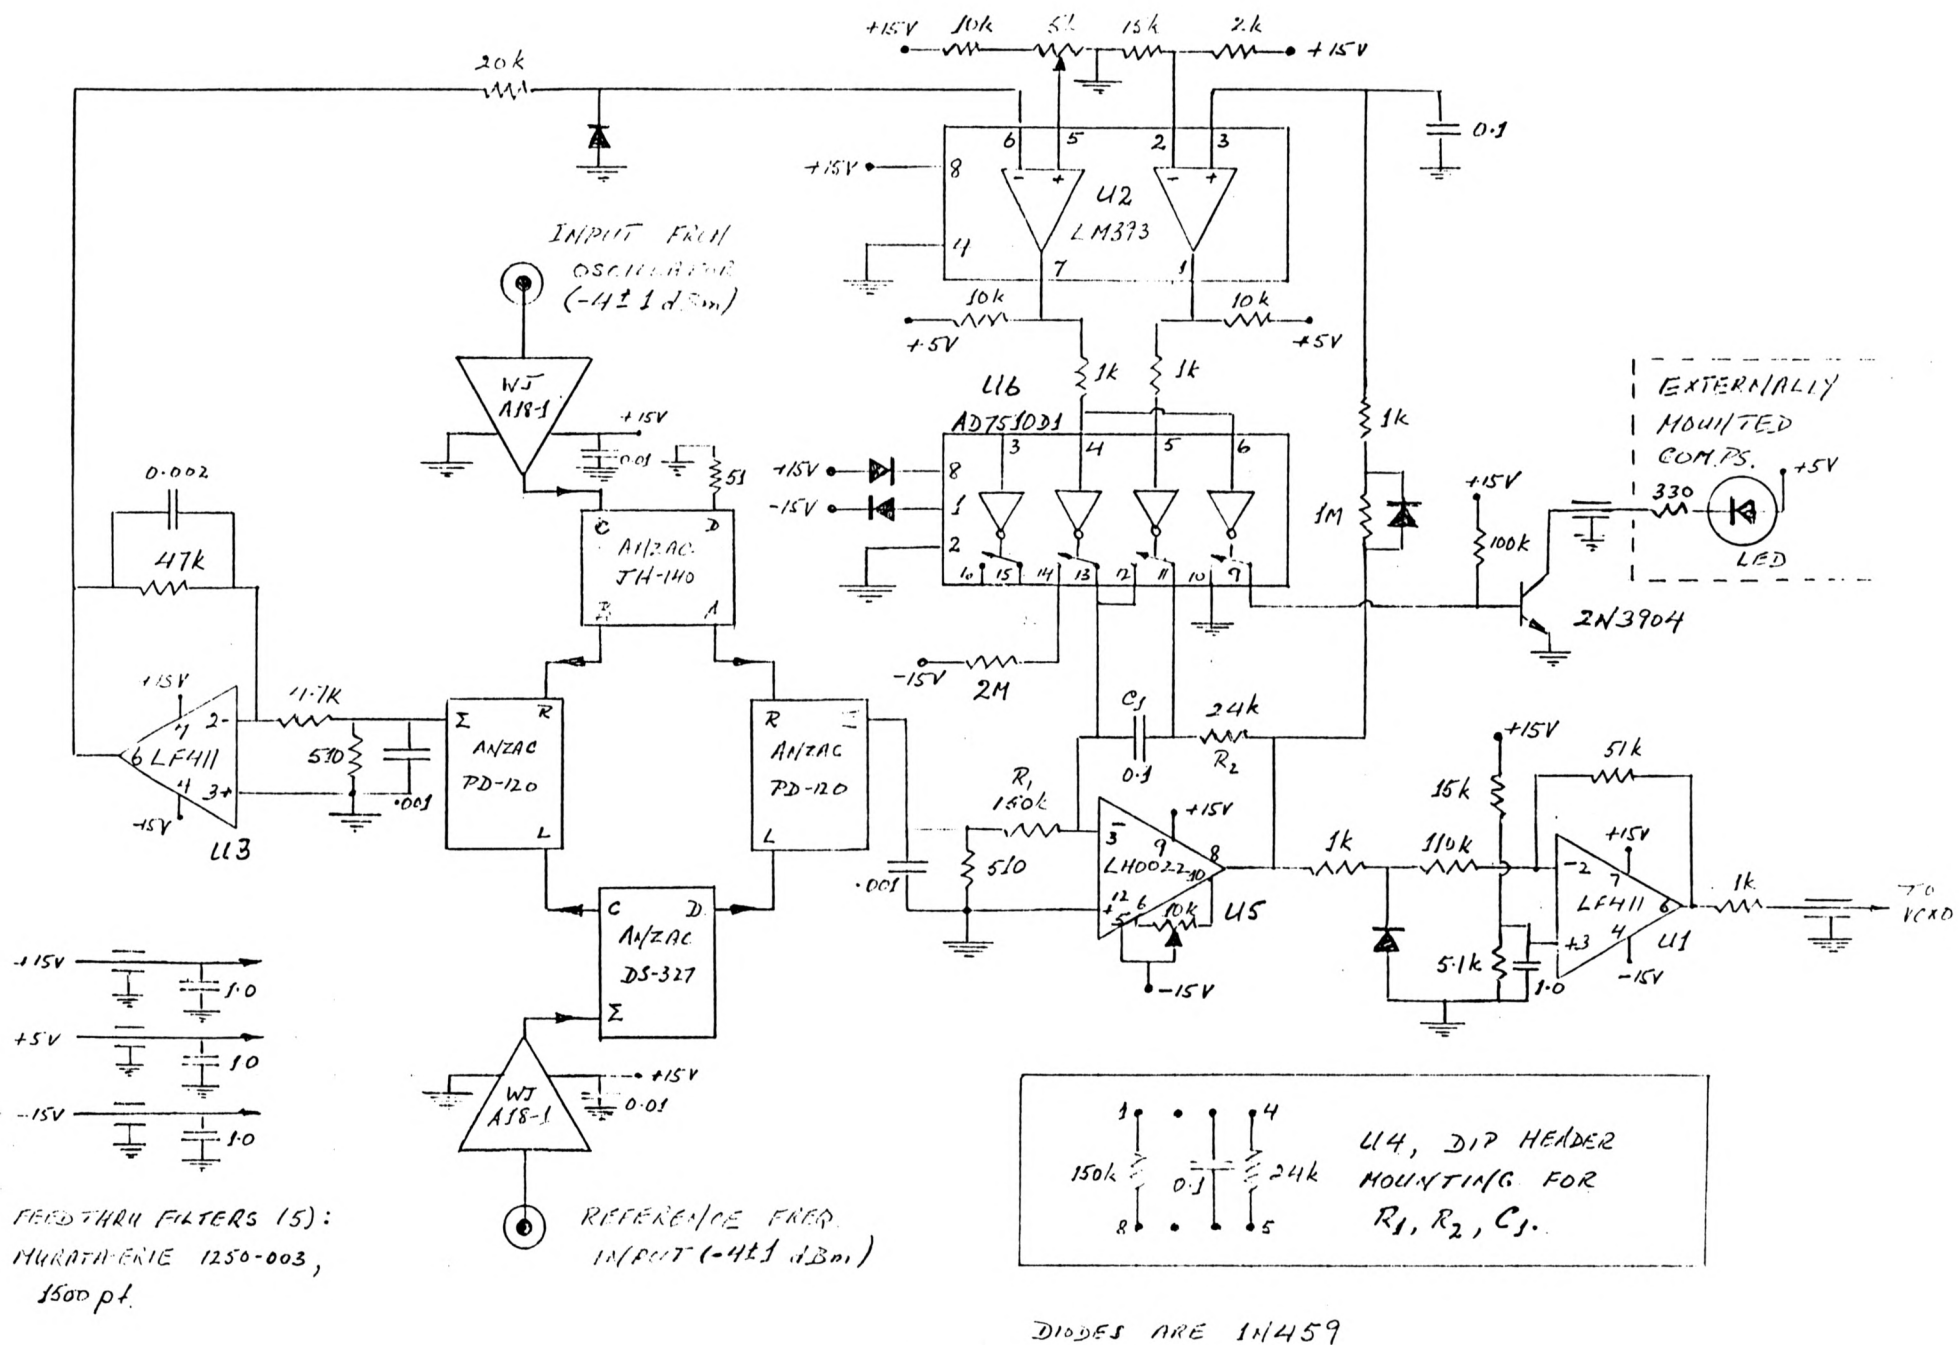

Fig. 9 Circuit diagram of the phase lock unit used in the LO Receiver module. This unit is designed for use with input signals at 500 MHz.
A circuit diagram of the phase lock unit is given in Fig. 9. It is designed to operate with both VCXO and reference frequencies of 500 MHz as inputs. Input levels for these two signals are both -4 ± 2 dBm. With 14.5 dB typical gain in the A18-1, and allowing 3.5 db attenuation in the DS-327 power divider and the JH-140 hybrid, the input levels to the PD-120 phase detectors are 7 ± 2 dBm. Of the two phase detectors in Fig. 9, the one on the right controls the phase lock loop and the one on the left the lock detector.
(1) Apply -1 dBm at 500 MHz to OSP connector J10 and check the output level of the monitoring detector at output 1 of the three-way power splitter. Set the output of the detector amplifier to -1 volt.
(2) Check and adjust the phase-lock unit (Fig. 9) as follows.